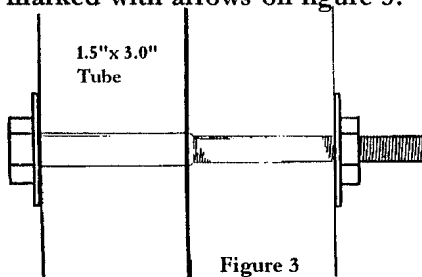
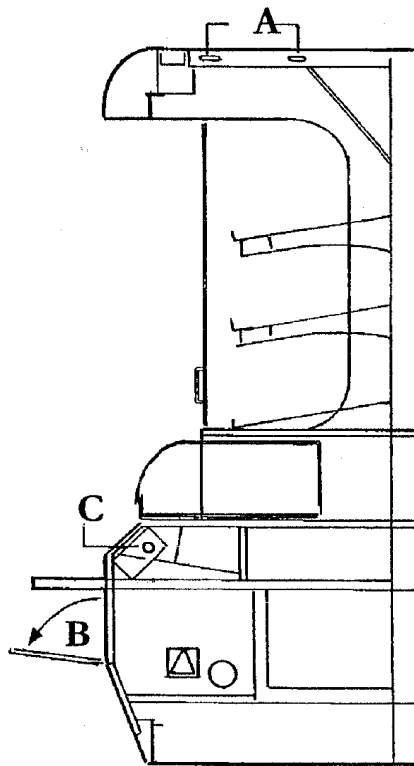

Figure 3
Figure 5
- Using the two 4"x .25" bolts provided, (see figure 3 below) bolt the cases together at point "A" marked with arrows on figure 5.
- With the #10 x 1.5" flat head screw provided, screw the cases together at the point marked "C" on figure 5.
- To lower the front panel grasp the top of the panel and tilt down. See Point "B" on figure 5.